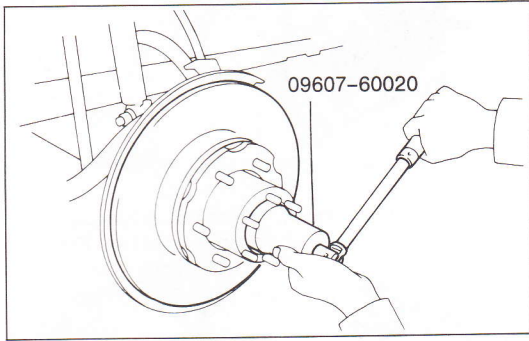

Fig. 4-11. Toyota service tool being used to remove adjusting nut from stub axle.
6. Only if you must remove the wheel hub with the brake disc, or if the adjusting nut requires replacement, remove the adjusting nut as indicated in Fig. 4-11.